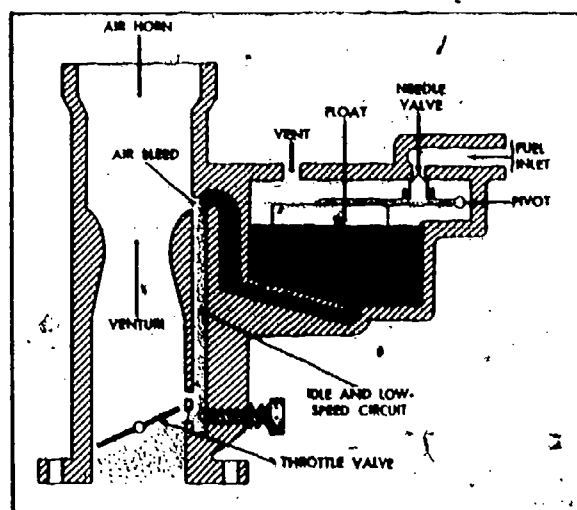

Fig 2-12. Carburetor schematic.
(4) Carburetor (fig 2-12). Flow of fuel entering a gasoline engine must be metered to control engine speed and to obtain efficient operation. The fuel must also be mixed in proportion with the air to insure complete combustion. Metering and mixing are performed in the carburetor. There are circuits (passages) in a carburetor that function to vary the air-fuel ratio. These circuits are: float, low-speed, high-speed, accelerating pump, and choke. Engines used in engineer equipment may not have the accelerating circuit in the carburetor. Such engines are run at a continuous speed and do not need the extra fuel for accelerating. Fuel flows through the needle valve into the float chamber where it is controlled by the float circuit. As the fuel level rises in the float chamber, the float rises and forces the needle valve to its seat causing the flow of fuel to stop. The fuel in the chamber will enter the passages and fill them to the float level. These passages open into the venturi or at the throttle valve. The venturi is a partial restriction in the air horn which causes the air flow to speed up and create a partial vacuum. A butterfly valve above or below the venturi will change the action of the air flow. If it restricts the flow of air more than the venturi, the velocity of the air will be greatest at that point. If the throttle valve in figure 2-12 was vertical, the flow of air rushing past the air bleed would be sufficient to cause the fuel to be sprayed down; this would be the high-speed circuit. But with the throttle valve closed, the air restriction is below the venturi and the vacuum is created at the throttle valve. The decreased volume of air and the restricted fuel opening will allow sufficient fuel to be sprayed down into the engine for the idling circuit. During cold weather, more fuel is required for cranking. To increase the fuel in the mixture, a choke (butterfly valve) circuit (not shown) is added above the venturi. The vacuum created and the atmospheric pressure through the float chamber forces the fuel out into the venturi and through to the engine. By restricting the fuel passages to the air stream you can change the amount of fuel that will be mixed with the air. A restriction in the air stream or any leaks between the carburetor and the combustion chamber will also affect the air-fuel ratio.